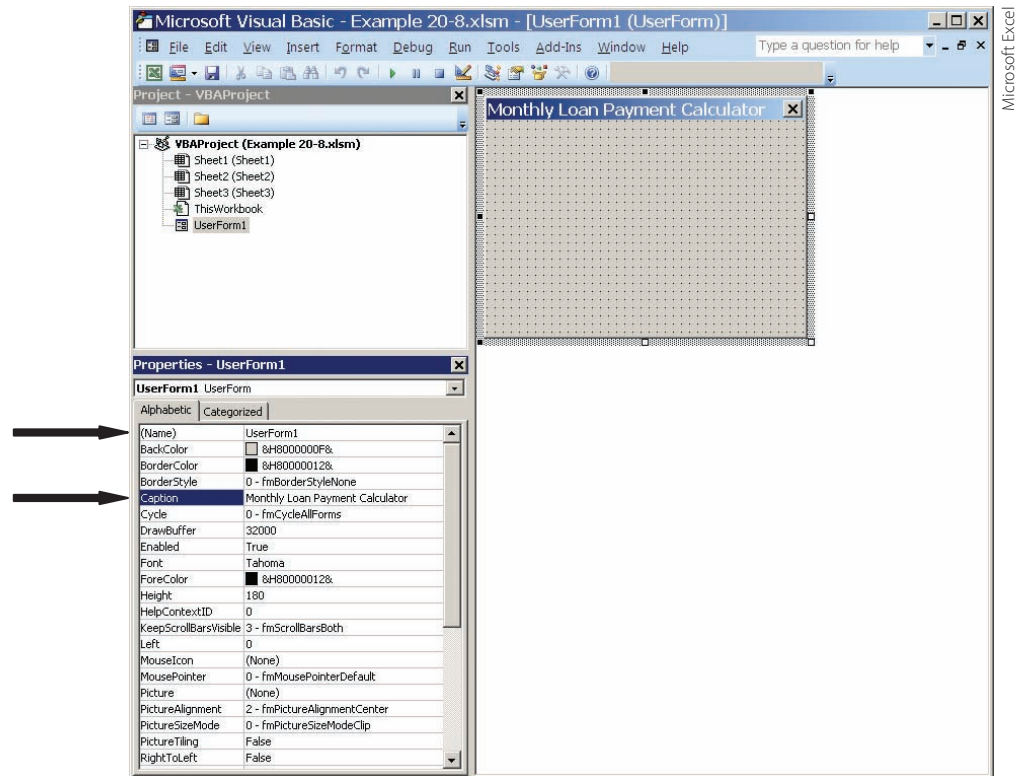

FIGURE 14.60
5. In the Properties window, under **Alphabetic** and Caption, assign a name such as `Monthly Loan Payment Calculator` (Figure 14.60). This is the name of the dialog box. Notice spaces are allowed in the dialog box name.